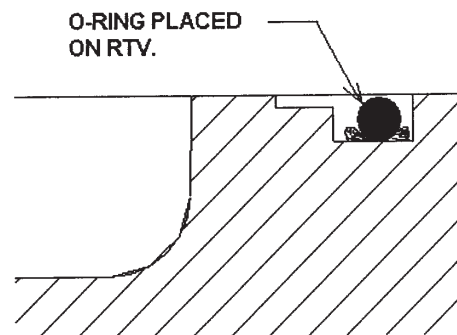
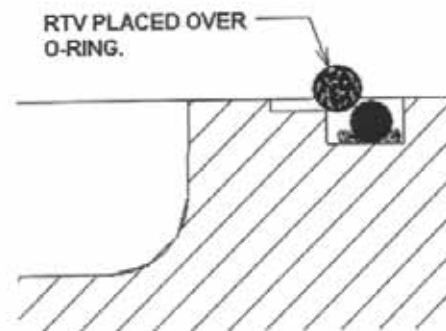

Figure 15
Figure 16
- 4.6.5.2 Install the O-rings (I.D. and O.D.) on top of the sealant, working them into position so that they lay flat in the bottom of the groove. See **Figure 15**. A second bead of sealant .060"-.090" (1,5mm - 2,3mm) in size should then be applied in the shallow groove. See **Figure 16**.